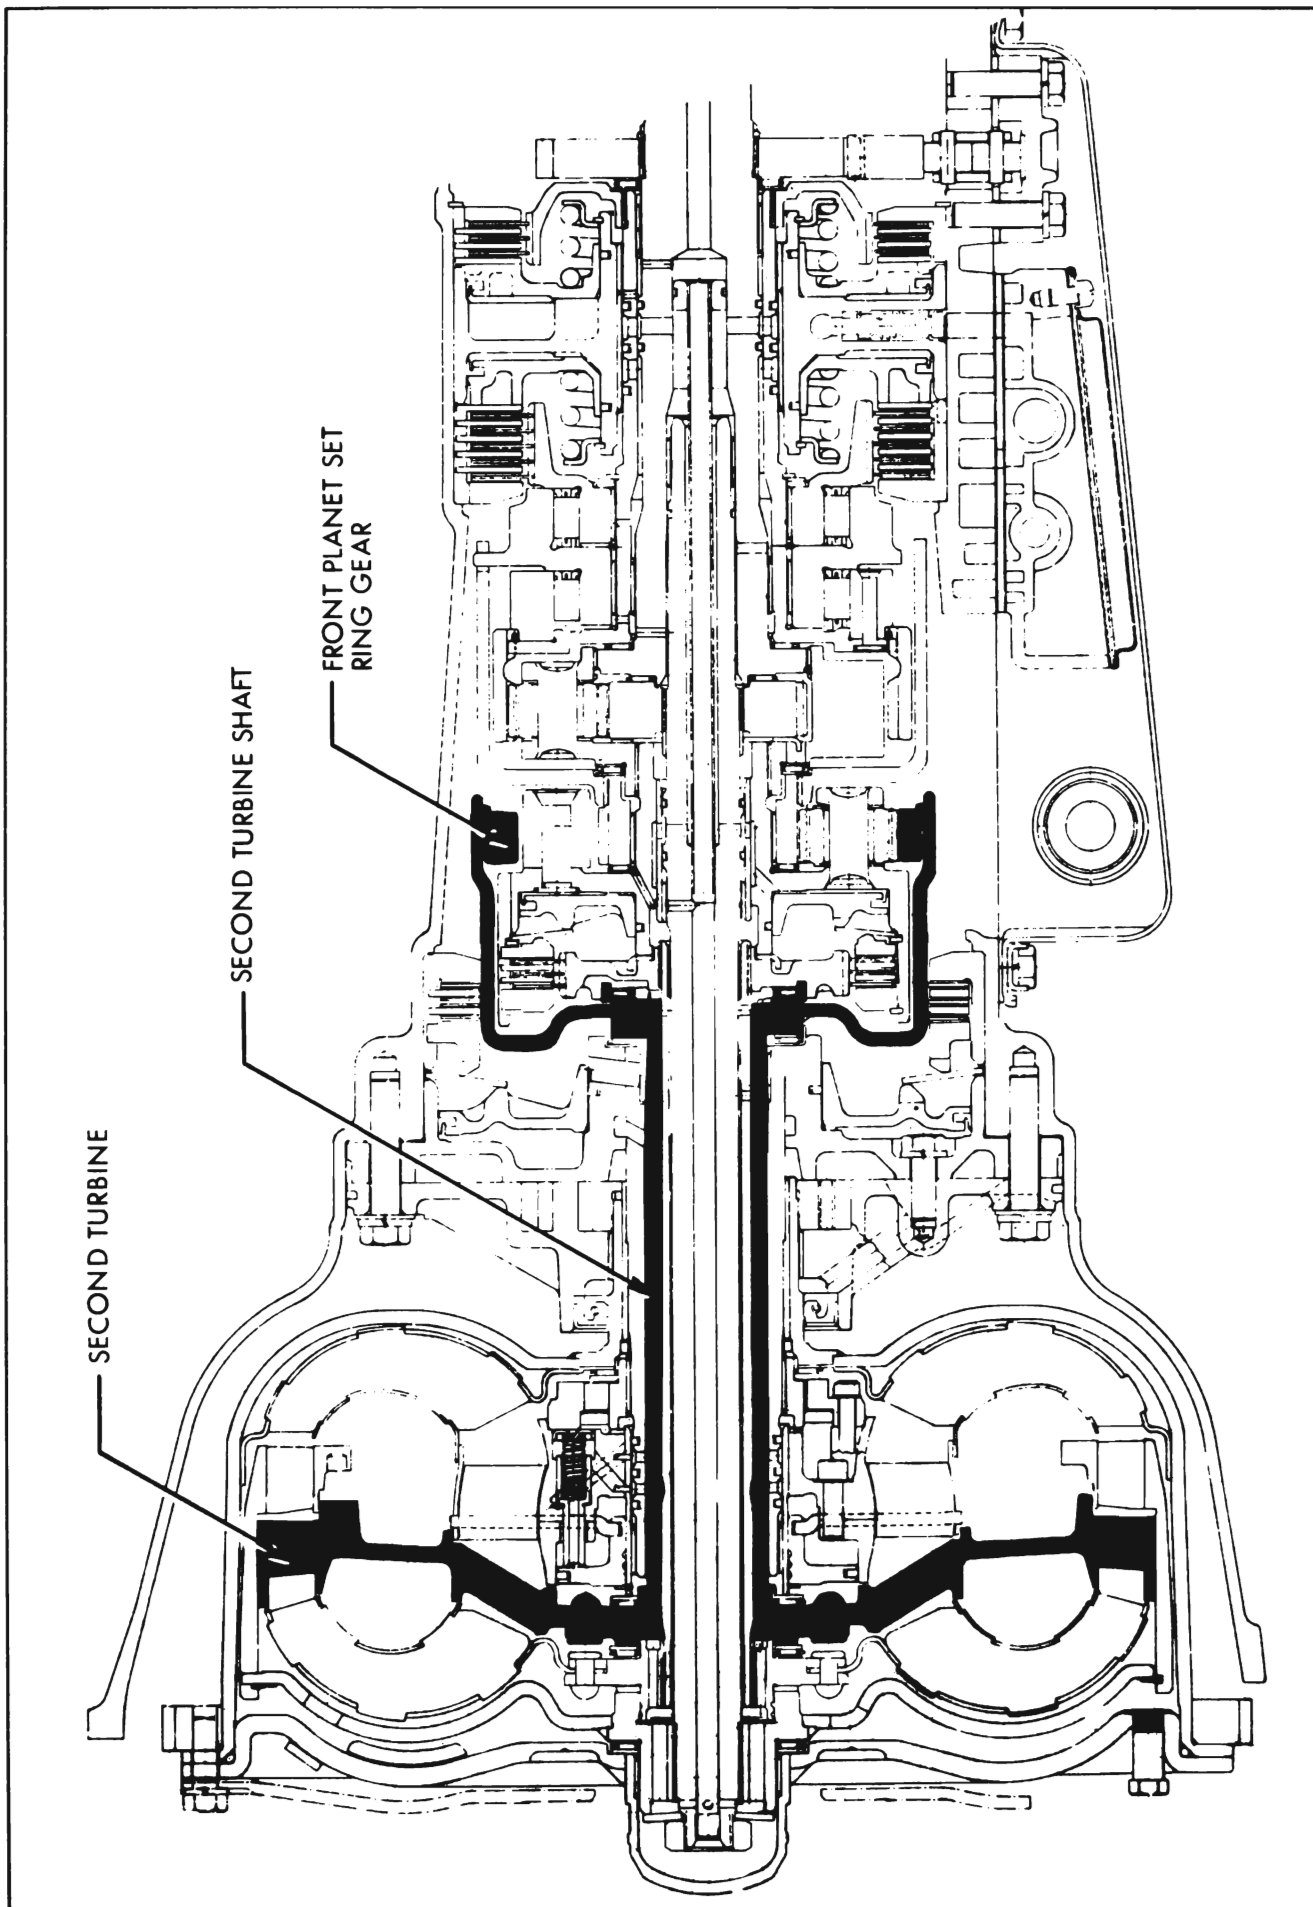

Figure 4—Second Turbine, Second Turbine Shaft, Front Planet Set Ring Gear and Reverse Clutch
2. A *second turbine*, second turbine shaft, front planet set ring gear and a multiple disc reverse clutch. See Figure 4.